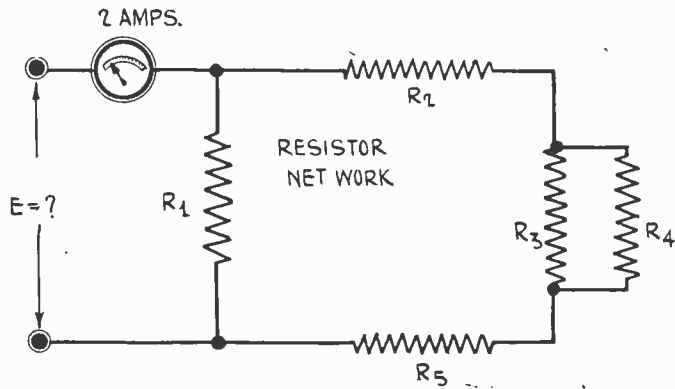

FIG. 1
The type of measurements that radio fans are most interested in pertains to resistance networks, of which Fig. 1 is an example. Probably the reason why interest in networks is claiming the attention of the experimenter is that so many have been interested in circuits such as the Loftin-White, various "B" eliminator "systems," including those that provide for the operation of dynamic speaker field coils, and charging of storage batteries, using vacuum tubes, mercury vapor tubes, generators and other devices. To all these a study of the circuit network of Fig. 1 is suggested.
An inspection of Fig. 1 will show that there is both series and parallel networks and therefore the utilization of both formulas is indicated, which might cause some concern if the solution of the problem were a part of a mid-town college examination.
Since the solution of Fig. 1 involves the use of (1) and (2), we may as well try first to decide whether there is any special advantage in the use of either one. Here, as before, we may as well pretend that the equations are "in series" also, and that being so, there is no reason why any preference should be shown, just so long as R3 or R4 are not combined with any other resistor in the network.